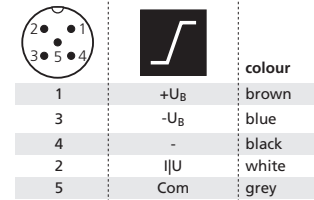

Fig. 1: Pin assignment with view onto sensor plug and colour coding of the microsonic connection cable
- Connect a connection cable to the M12 device plug, s. fig. 1.